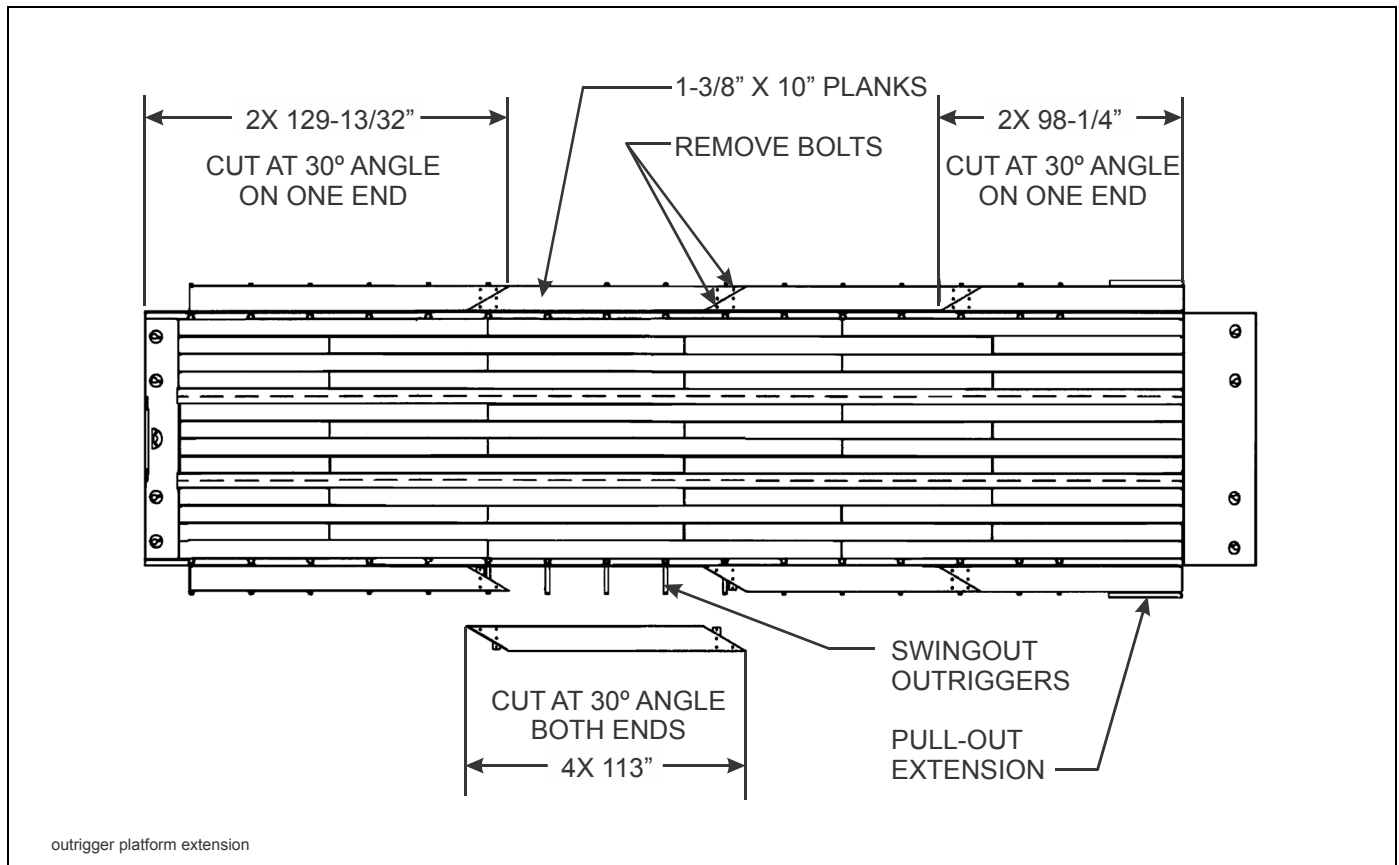

Figure 3-5: Outrigger Platform Extension
1. Unlatch and fold out swing-out outriggers (**See Figure 3-5.**)
6. Remove only two bolts for each joint (**See Figure 3-5.**) Leave braces attached to boards for storage.